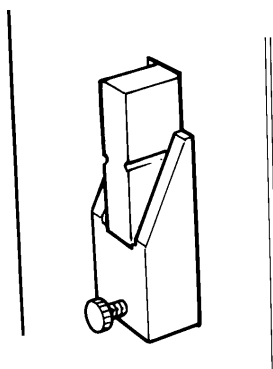

Figure 14 The sample holder in the sample position
To collect the sample spectrum, push the accessory as far as the second click (Figure 14).
3. Put the pad that you have collected your sample on into the sample (rear) indentation in the sample holder (Figure 14).
4. Put a clean abrasive pad in the background (front) indentation in the sample holder (Figure 14).